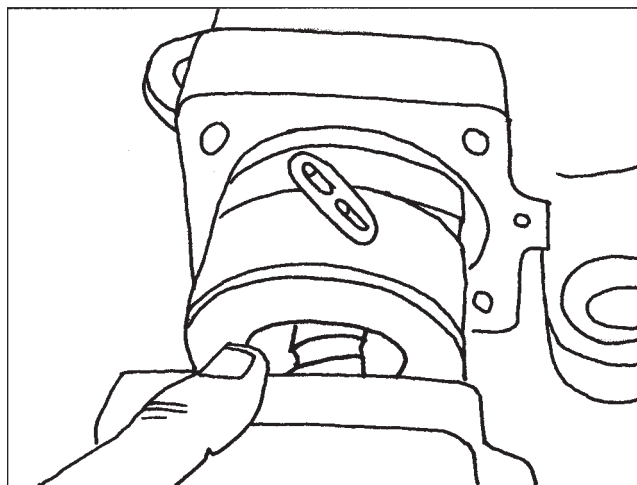

Figure 128
9. It will be necessary to tap the ball guide retainer into place with a soft hammer (Figure 128).